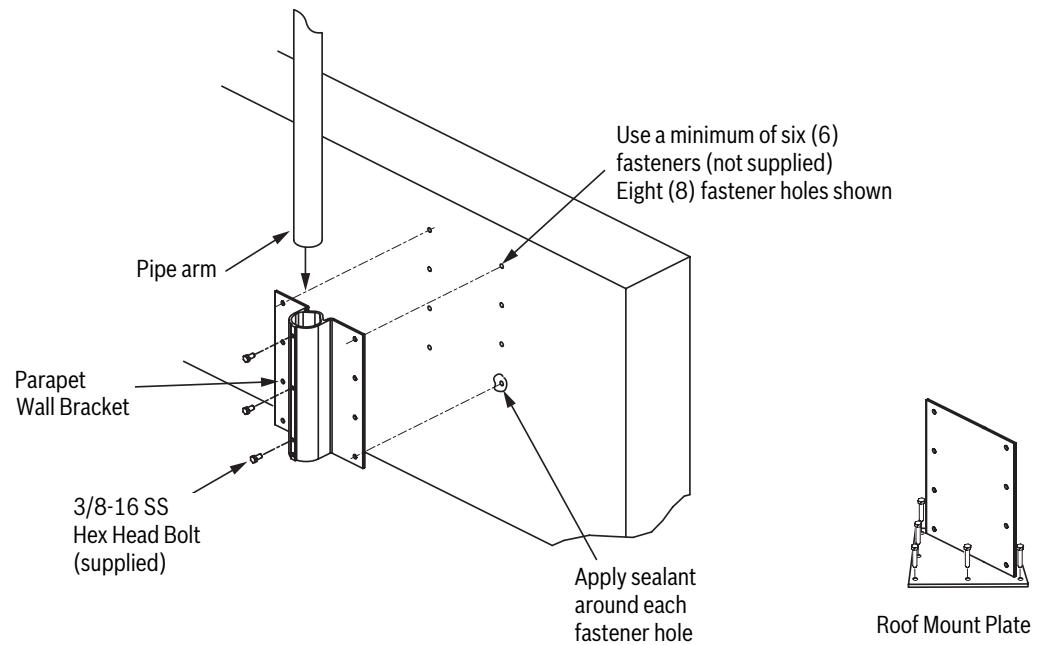

Fig. 2.8 Parapet Wall Mount Bracket and Roof Mount Plate
5. Hold the housing firmly in position and alternately tighten the two (2) 5-mm Allen head mounting screws from above to a torque value of 10-12 N-m (90-105 in.-lbs).
7. Tighten the three (3) 10-mm (3/8-inch) stainless steel hex bolts on the bracket to lock the Parapet Arm in position. See *Figure 2.8* on page 27 for an illustration.